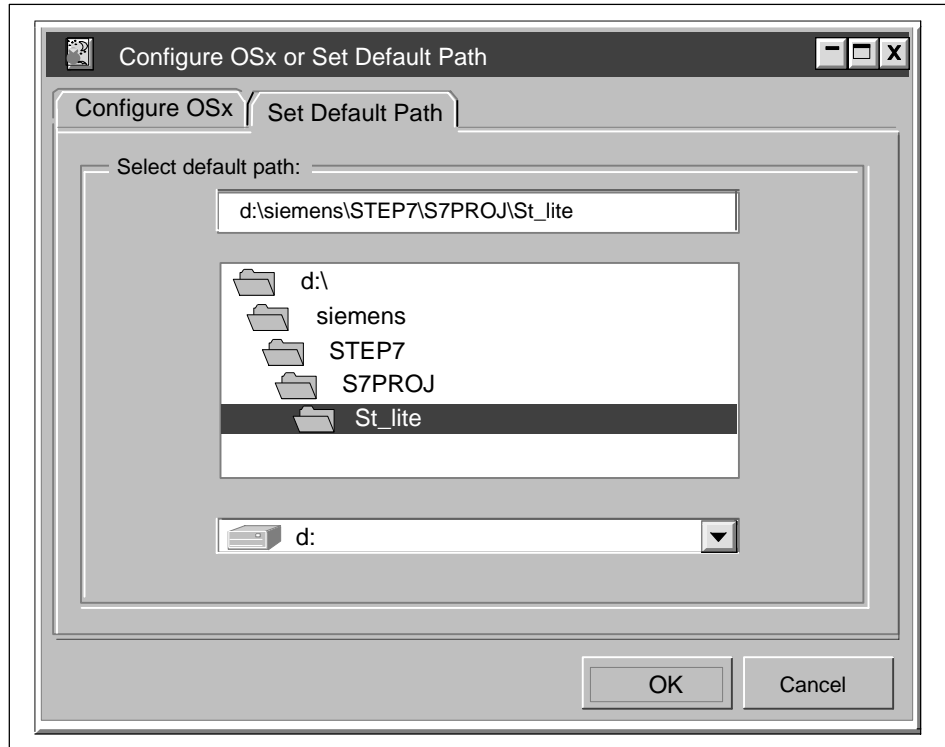

Figure 2-21 Set Default Path Dialog Box
4. Double-click on the appropriate directories to take you to your S7 project (**St_lite** in Figure 2-21).